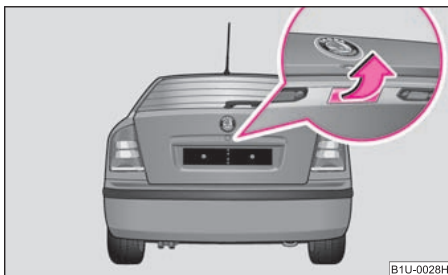

Fig. 39 Handle of boot lid
Unlocking or locking the vehicle causes **all** doors to be unlocked or locked at the same time by the central locking system. The boot lid is unlocked when opening. It can be opened by pressing the hand grip above the licence plate ⇒ page 41, fig. 39.
- Press on the handle ⇒ fig. 39 and at the same time raise the boot lid.